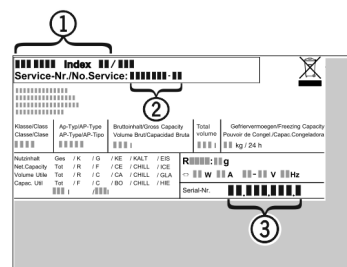

Fig. 13
- Read the appliance designation Fig. 13 (1), service No. Fig. 13 (2) and serial No. Fig. 13 (3) off the model plate located inside the appliance on the left-hand side.
- Notify the customer service, specifying the fault, appliance designation Fig. 13 (1), service No. Fig. 13 (2) and serial No. Fig. 13 (3).